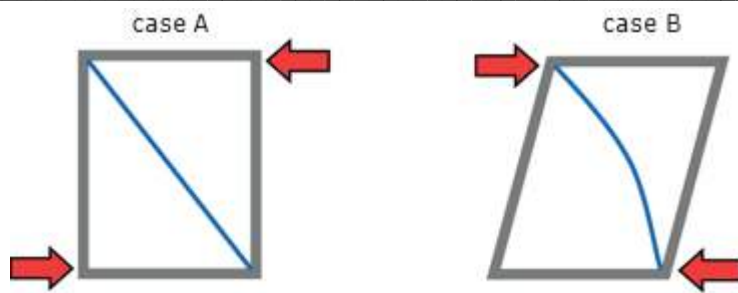

Figure 9: Simple triangulation of a frame
4. Will one brace always work? Compare and evaluate what happens when you apply forces as in case A and case B in fig 9?